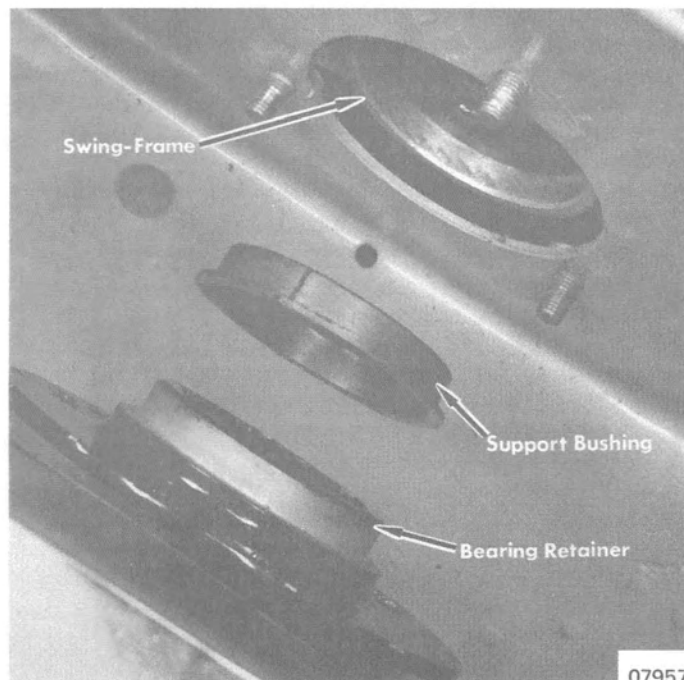

Figure 1. Removal of Bearing Retainer
- chassis. Remove bearing retainer and support bushing. (Figure 1)